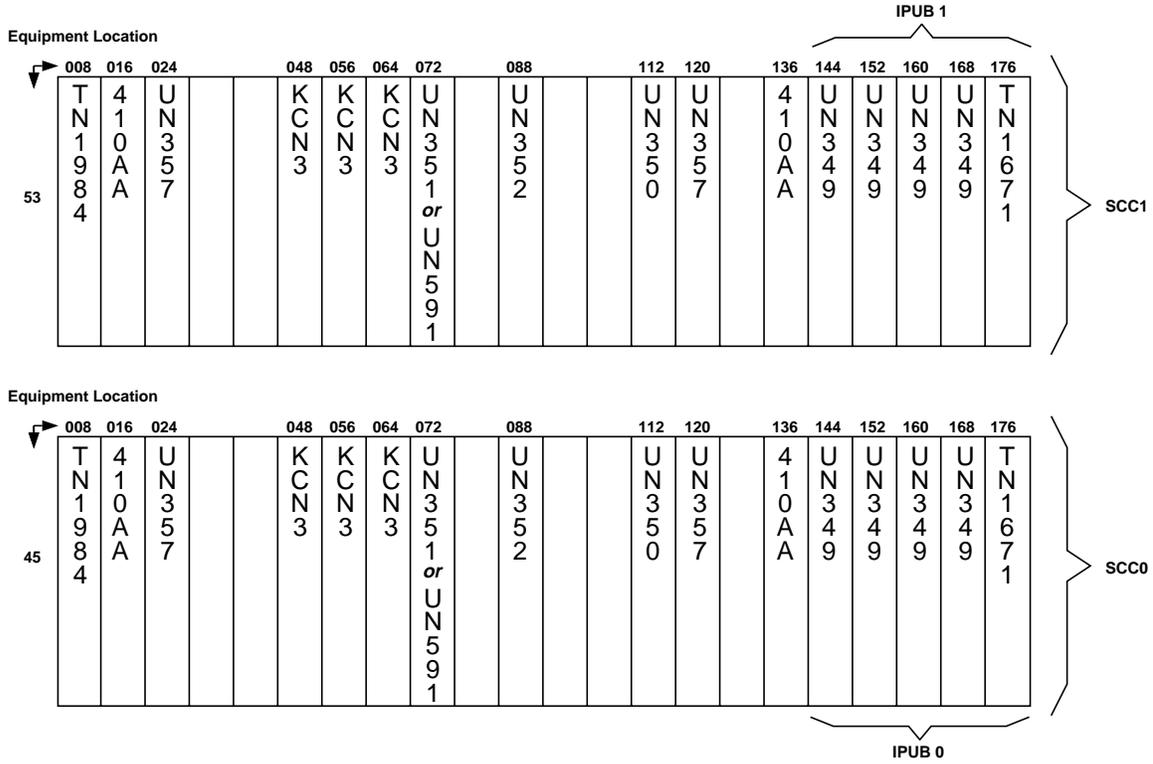

Figure 3. SCC Unit - Circuit Pack Locations
- SCC Unit — Circuit Pack Locations (Figure 3)